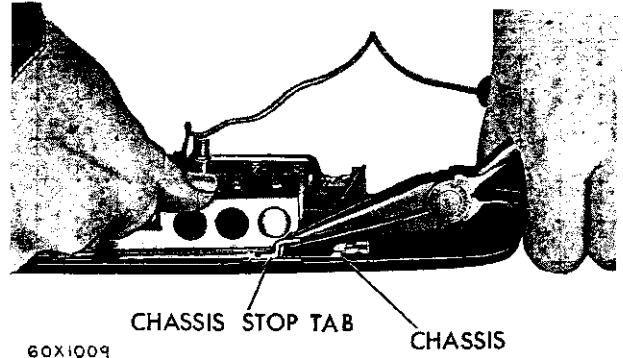

Fig. 23—Aligning the Chassis Tabs
(3) If the flip angle was incorrect, bend the chassis top tab (Fig. 23) rear of the solenoid, toward the glass to reduce the flip angle or away from glass to increase the flip angle. Do not bend the tab more than **one or two degrees** or the solenoid will not operate properly.
(4) Should it be necessary to separate the glass from the chassis it can be done by releasing the chassis return springs and disengaging the mirror from the chassis pivots.